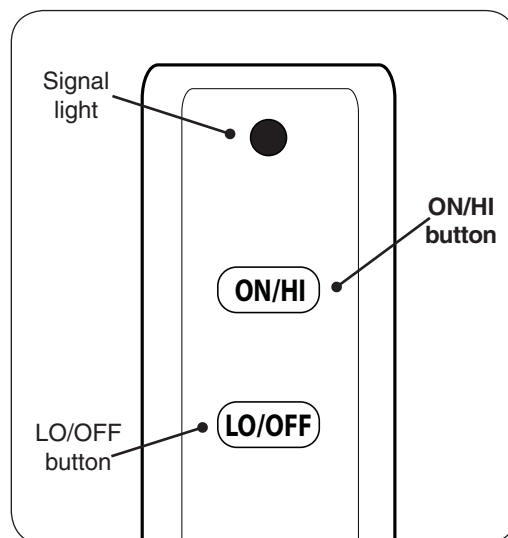

Fig. 39-1 Remote transmitter detail
2. Locate the remote transmitter and press and hold the **ON/HI** button (see Fig. 39-1). The ignition sequence will begin.